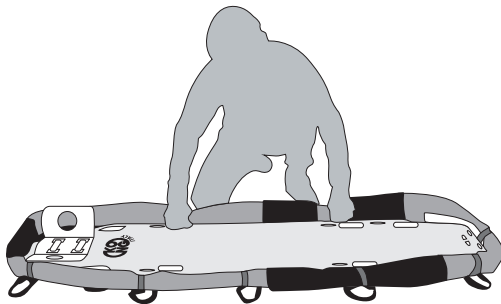
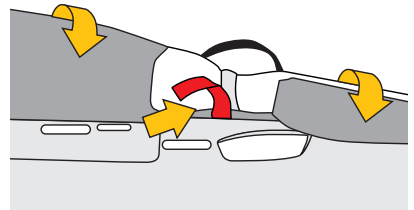

Fig.36
Fig.37
- roll up the cover parts of the rescue bag, as shown in fig. 36, and fix them with the special velcro straps (figs. 37, 38 and 39),